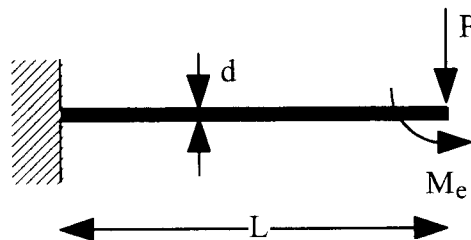

Figure 7
- (c) Figure 7 shows a cantilever of length L , depth d and breadth b , formed in a material of Young's modulus E . Derive an expression for the transverse stiffness of the beam against the load P , assuming that its free end is constrained against rotation by the moment M_e . Hence or otherwise, find an expression for the in-plane stiffness of a portal suspension formed from two cantilevers linked by a rigid strut.